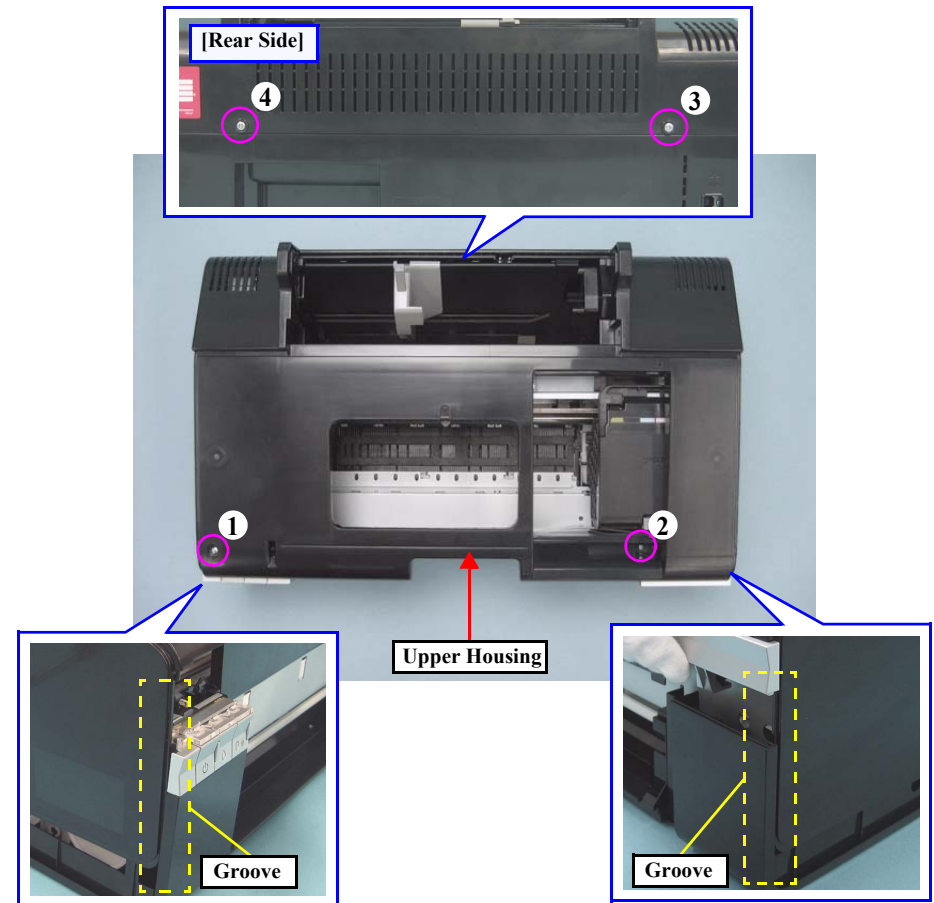

Figure 1-20. Removing the Upper Housing
- Tighten the screws in the order given in Fig.1-20 (p.25).
- Match the ribs of the Upper Housing shown in Fig.1-20 (p.25) with the grooves of the Housing Lower.